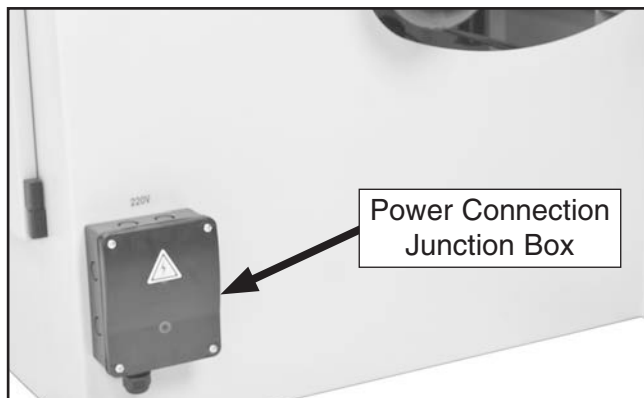

Figure 6. Location of power connection junction box.
2. Remove the power connection junction box cover (see **Figure 6**).